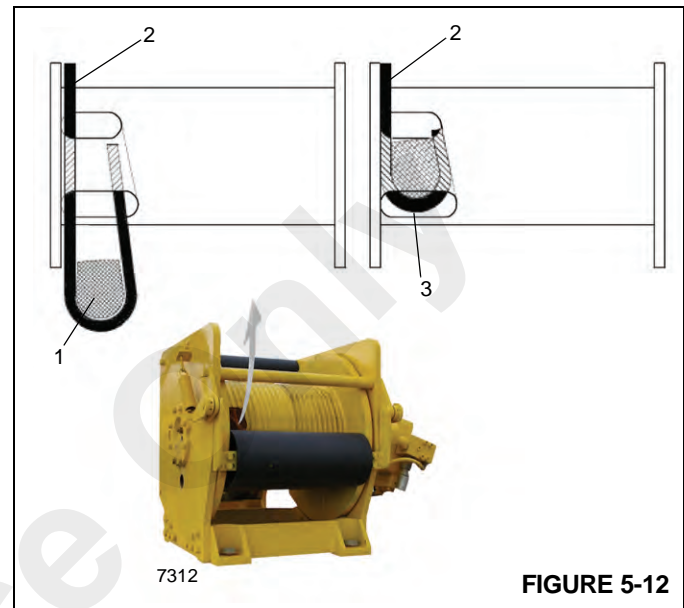

FIGURE 5-12
3. Insert the cable through the slot and position around the anchor wedge (1) Figure 5-12.